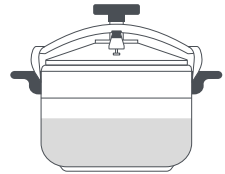

Fig. 2
2 When preparing foods that swell up during the cooking process, such as rice, cereals or dehydrated foods, do not fill to over the "1/2" level of the cooker body (11) (Fig. 2). If you exceed the pot filling levels, the safety devices could be impaired, increasing the risk of burns.